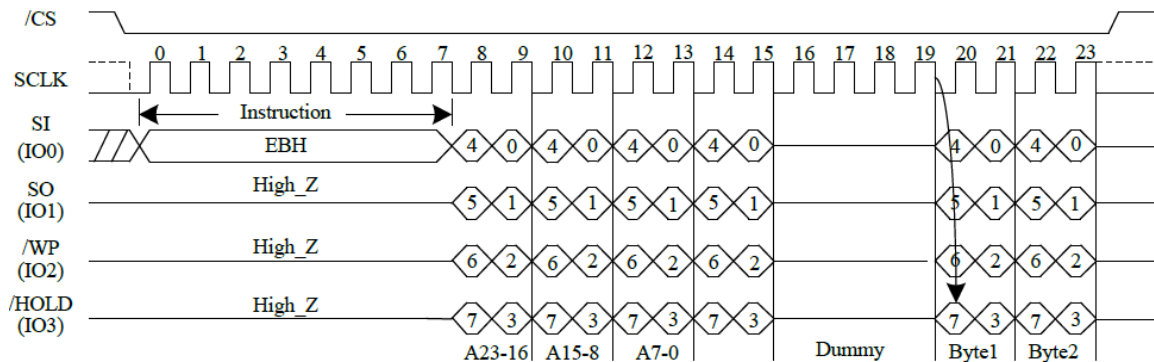
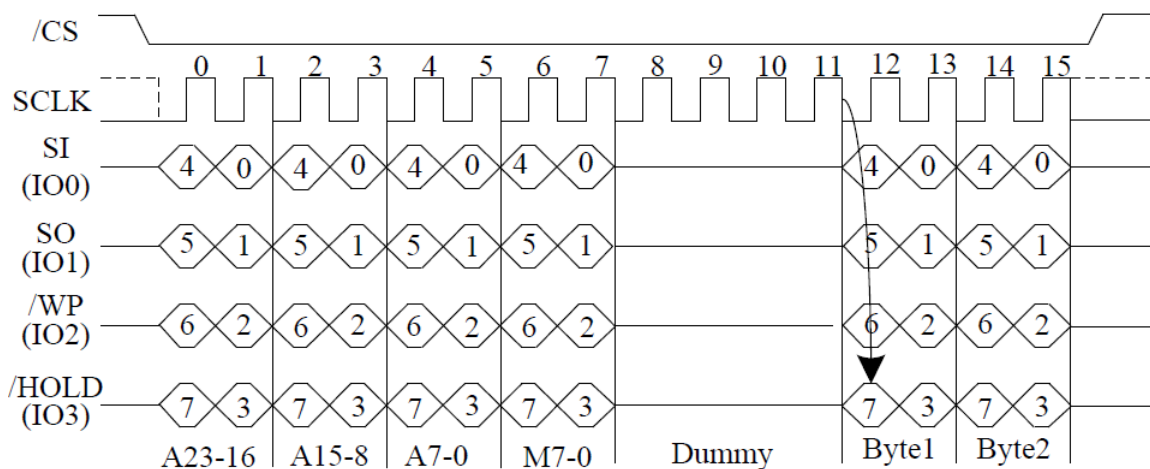

Figure13. Quad I/O Fast Read Sequence Diagram (Initial command or previous (M5-4≠(1,0)))
Figure14. Quad I/O Fast Read Sequence Diagram (Previous command set (M5-4)=(1,0))
See Figure 13, the Quad I/O Fast Read instruction is similar to the Dual I/O Fast Read instruction but with the capability to input the 3-byte address (A23-0) and a “Continuous Read Mode” byte and 4-dummy clock 4-bit per clock by IO0, IO1, IO3, IO4, each bit being latched in during the rising edge of SCLK, then the memory contents are shifted out 4-bit per clock cycle from IO0, IO1, IO2, IO3. The first byte addressed can be at any location. The address is automatically incremented to the next higher address after each byte of data is shifted out. The Quad Enable bit (QE) of Status Register must be set to enable for the Quad I/O Fast read instruction.
The Quad I/O Fast Read instruction can further reduce instruction overhead through setting the “Continuous Read Mode” bits (M7-0) after the input Address bits (A23-0), as shown in Figure 13, If the “Continuous Read Mode” bits (M5-4) = (1,0), then the next Fast Read Quad I/O instruction(after /CS is raised and then lowered) does not require the EBH instruction code, The instruction sequence is shown in the followed Figure 14. If the “Continuous Read Mode” bits M5-4 do not eQuad to (1,0), the next instruction requires the first EBH instruction code, thus returning to normal operation. A “Continuous Read Mode” Reset command can also be used to reset (M5-4) before issuing normal command.